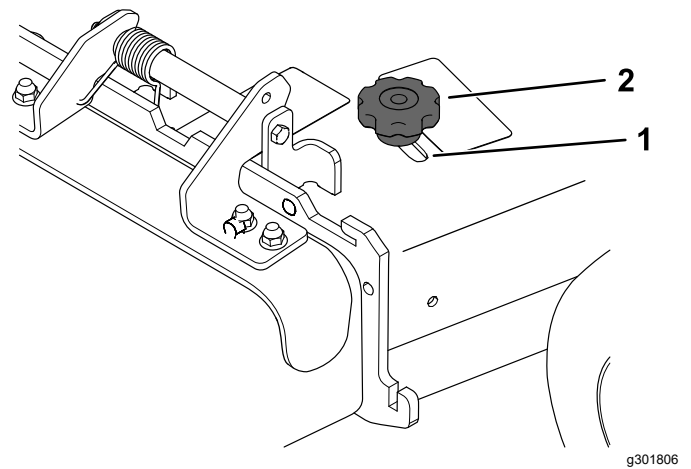

Figure 21
3. To adjust the baffle, loosen the knob (Figure 21).